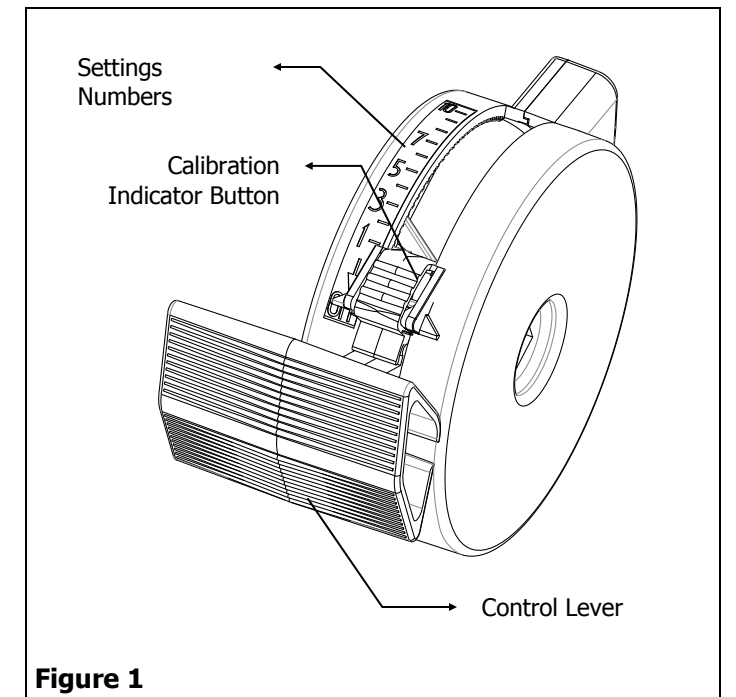

Figure 1
1. Attach the Tow Bar to the center hole of the Cross Brace, using a 1/4" x 1-1/2" Hex Head Bolt and a 1/4" Nylock Nut. See Figure 1.